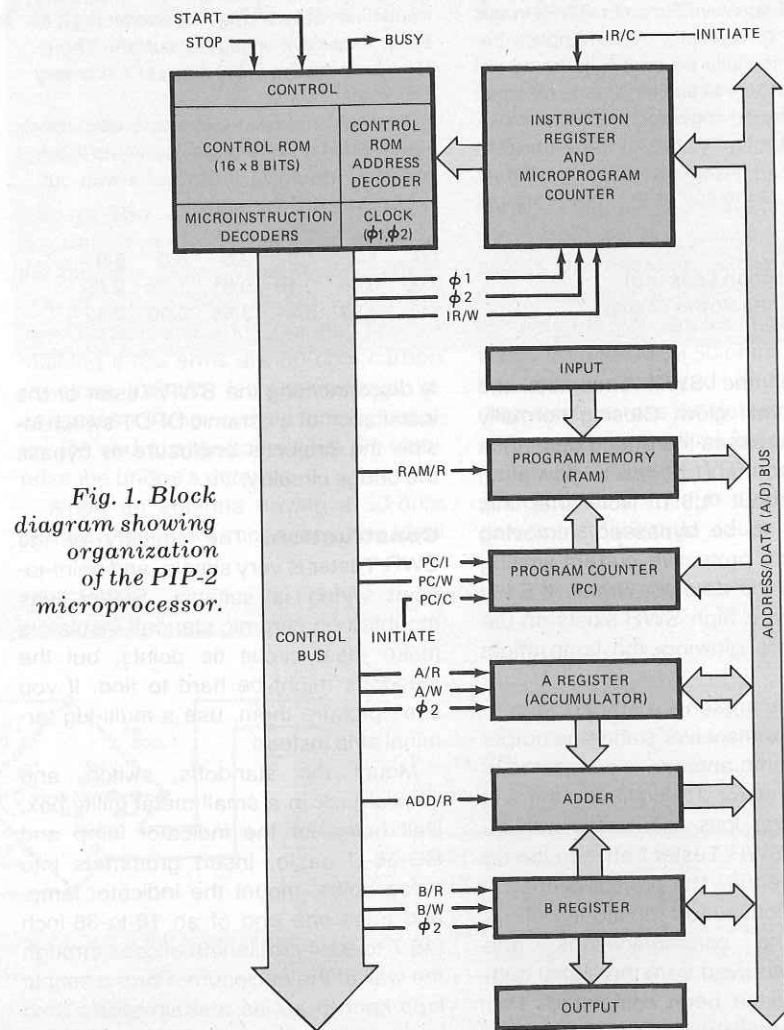

Fig. 1. Block diagram showing organization of the PIP-2 microprocessor.
**PIP-2's Organization.** A block diagram of the major components of PIP-2 is shown in Fig. 1. As you can see, PIP-2 is a bus-organized microprocessor. All of its sections are connected to a 4-bit bidirectional bus which permits data and memory addresses to be transferred from one section to one or more other sections connected to this bus.